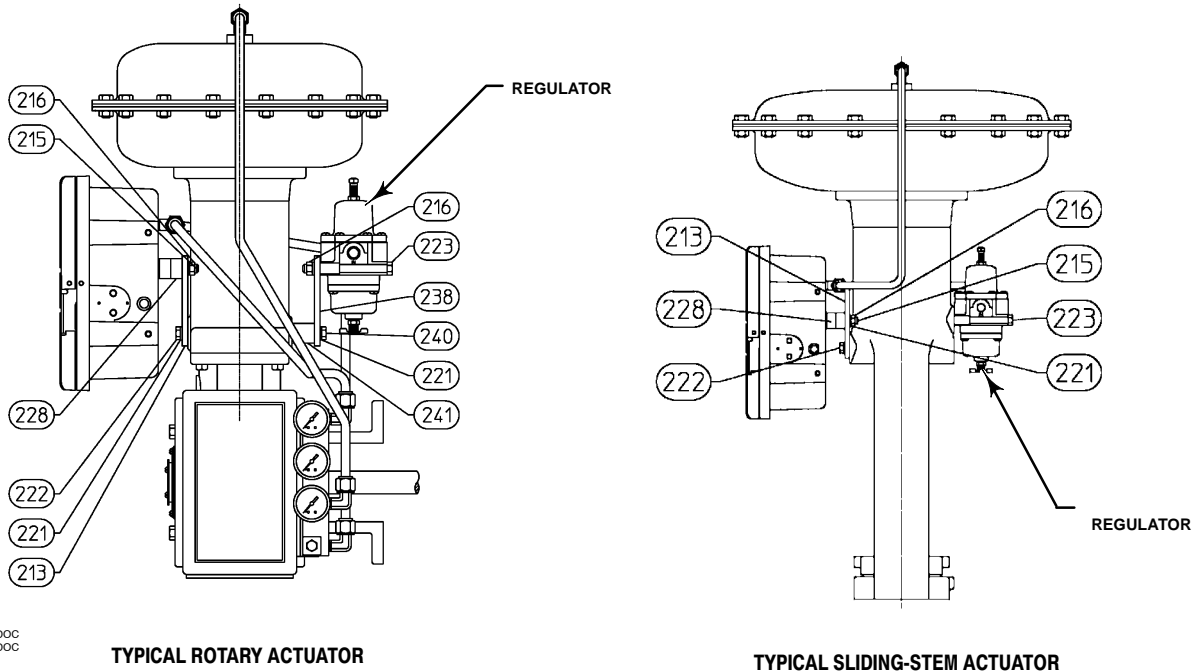

Figure 4. Actuator Mounting
Controllers specified for mounting on a control valve actuator are mounted at the factory (see figure 4). If the controller is ordered separately for installation on a control valve actuator, mount the controller according to the following instructions.
Mounting parts for various actuator types and sizes vary. Two typical actuator-mounted installations are shown in figure 4. See the parts list for parts required by the specific actuator type and size involved. Attach the spacer spools (key 228) and the mounting plate (key 213) to the controller with machine screws, lock washers, and nuts (keys 215, 221, and 216). Attach the mounting plate to the actuator yoke with cap screws (key 222) and, if needed, spacer spools. On some designs, the mounting bracket is attached to the actuator diaphragm casing rather than to the yoke.